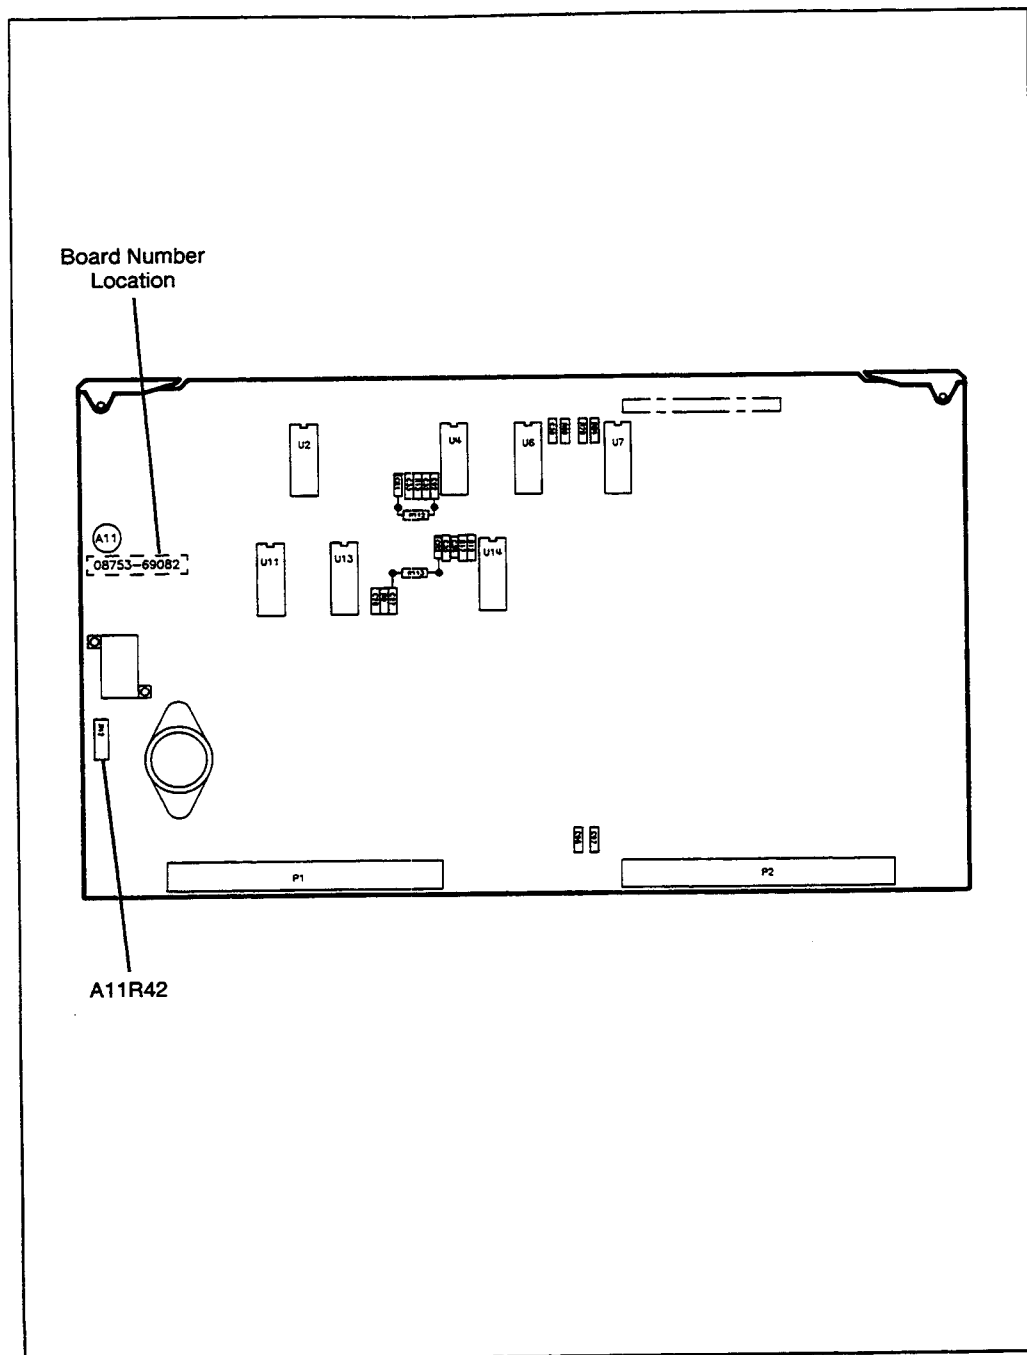

Figure 27. A11 Phase Lock Partial Component Location Diagram
5. Check the part number of the board. If it is NOT 08753-60060 or 08753-69060, there is no need to install the jumper, so you are done. Otherwise, refer to Figure 27 to locate and remove A11R42.
7. Now relabel the A11 board with the label provided. The label, HP part number 7120-1232, should be placed over the current board number as shown in Figure 27.